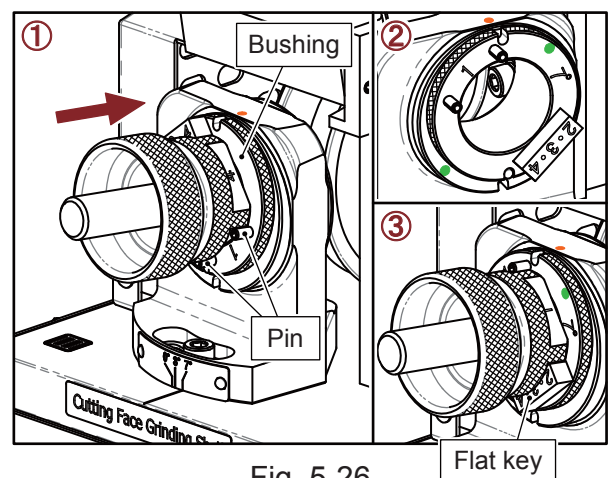

Fig. 5-26
3) 4 Flute Cutting Face Grinding (III) (Fig. 5-26)
① Insert the chuck set into the bushing on the Shelf (III), align Slot No.1 to the two pins where marked as No.1, push the chuck set gently until the grinding noise stops.
② Take the chuck set out and turn the bushing to No.(2·3·4), align No.(2·3·4) to the pin on the shelf, then insert it to the end.
③ Insert the chuck set into the bushing, align Slot No.2 to the flat key where marked as No.(2·3·4), push the chuck set gently until the grinding noise stops. Turn the chuck set to grind the Slot No.3 and Slot No.4 in the same way.